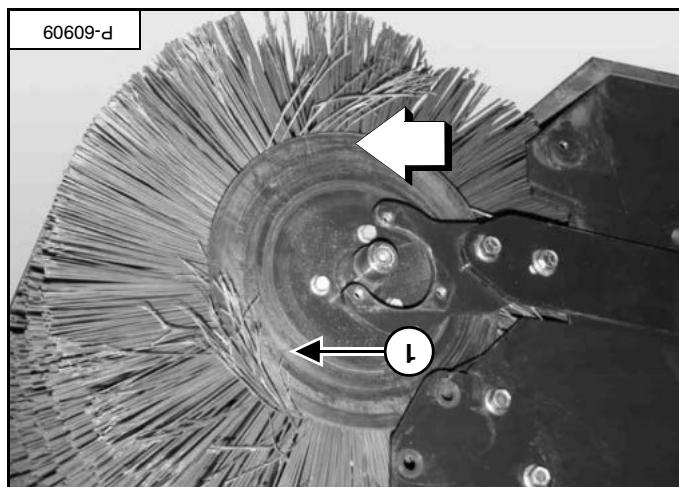

Figure 111
Move the broom (item 1) [Figure 111] away from the sweeper housing.